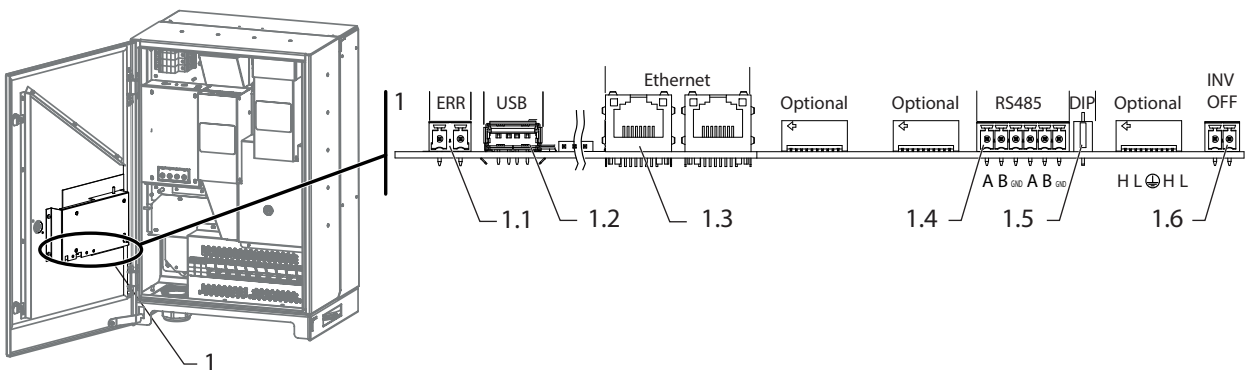

Figure 36: Communication circuit board: Connection and assignment of the interfaces
1. Connect the connection cables to the corresponding connection terminals (see Figure 36 on page 27).
- ☞ Only activate the terminating resistor on the communication circuit board of the terminal unit using the DIP switch. (See Figure 36 on page 27)